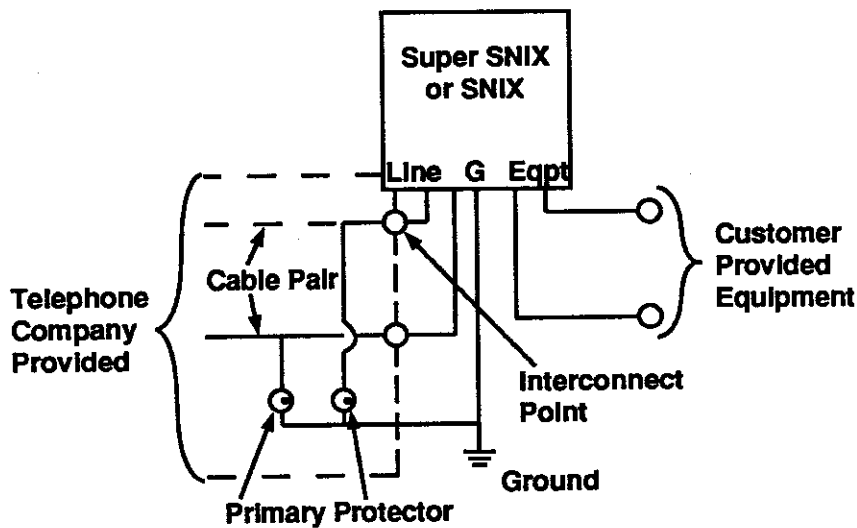
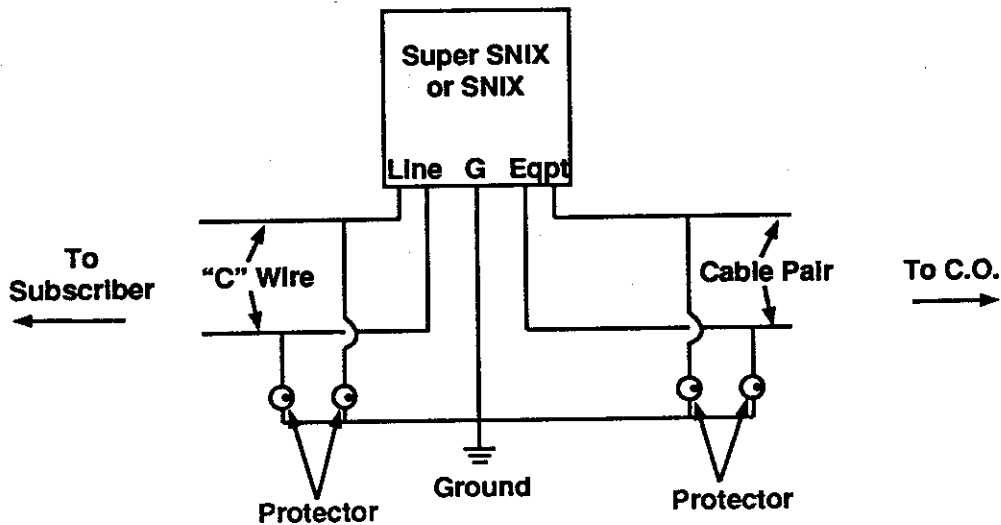

Figure 7
Figure 8
5.08 A typical end user or station application is shown in Figure 7. Figure 8 shows a "C" wire/cable application. (Note the necessary protectors on both the line and equipment sides.)